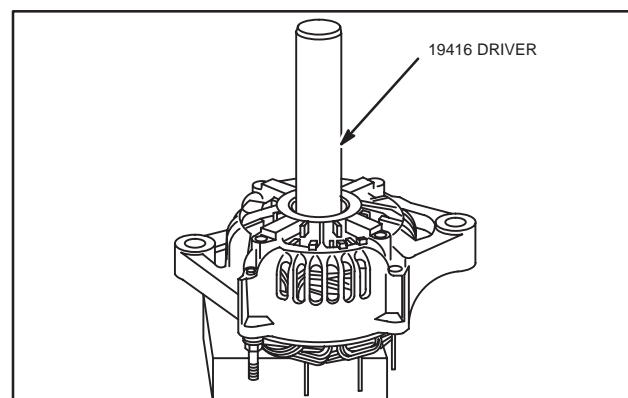

Fig. 28 – Remove Bearing Retainer
1. Remove four screws and bearing retainer, Fig. 28.